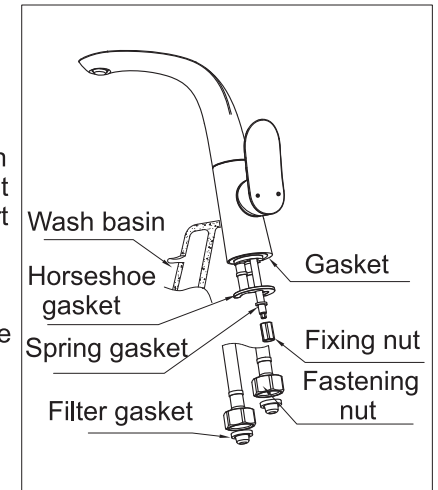

Fig.1(Main water nozzle body installation)
- (1) As shown in Figure 1, remove the fixing nut, spring gasket, horseshoe gasket at the lower part of the body.